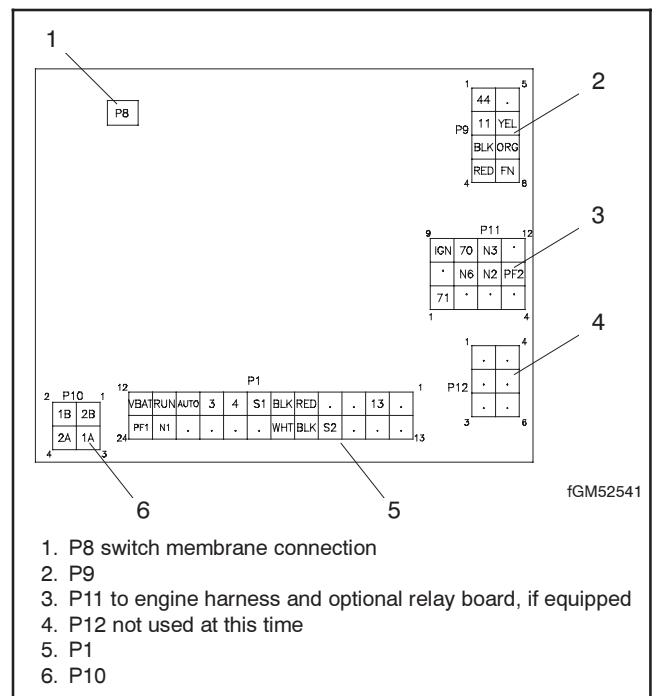

Figure 5-24 Controller Logic Board Connections
5. Note the connections on the logic board, and then disconnect. See Figure 5-24.